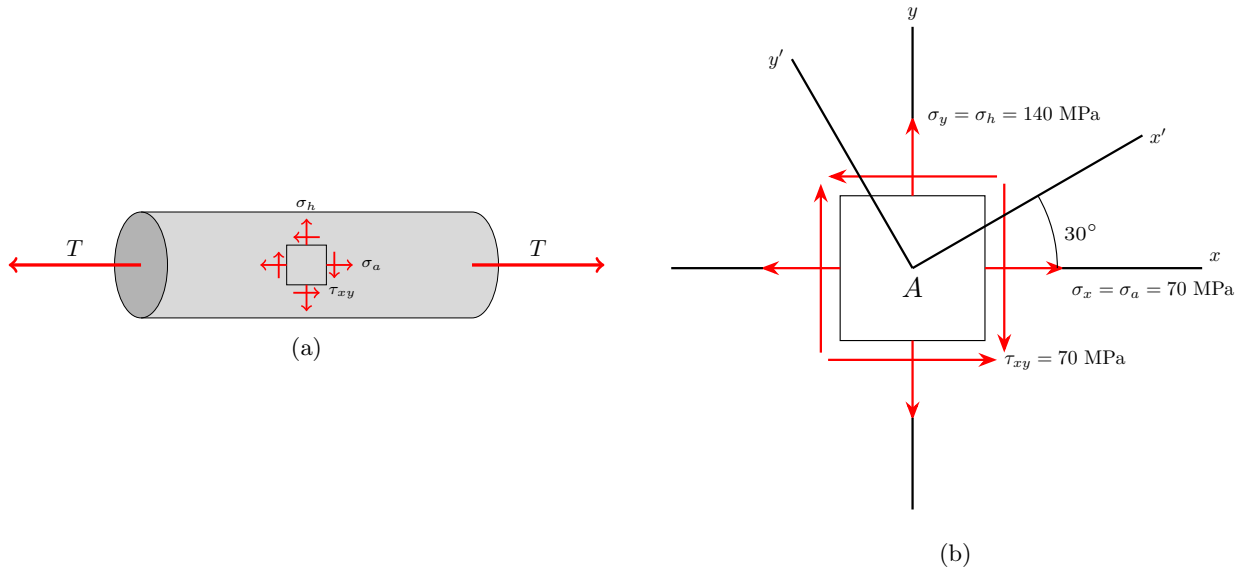

Figure 3
9. A thin walled pressure vessel shown in Fig. 3 (a) is subjected to an internal pressure which results in an axial normal stress $\sigma_a = 70$ MPa and a hoop stress $\sigma_h = 140$ MPa on its outer surface. An accidental event causes a torque to be applied on the entire structure causing a shear stress of magnitude equal to τ_{xy} as shown in Fig. 3 (b).
- (a) Use the stress element in Fig. 3 (b) to draw the Mohr's circle on the graph paper.
- Note:* The x' -axis is oriented at 30° from the x -axis as shown in Fig. 3 (b).